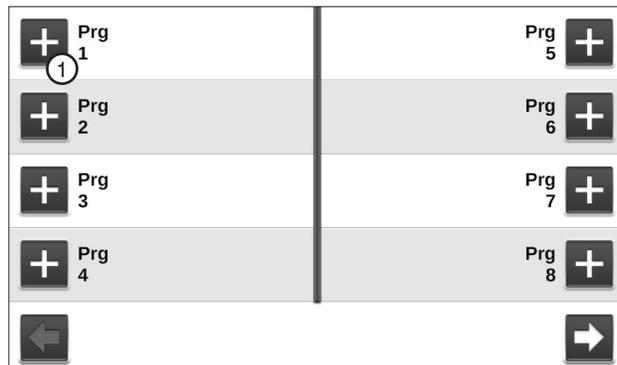

Figure 114-2 Step Programs Screen
1. Push **Menu**, **Programs** and **Step Programs** to view the Step Programs screen. Refer to Figure 114-2.
2. Push the **New Program** button corresponding to the preferred program number as shown in Figure 114-2.